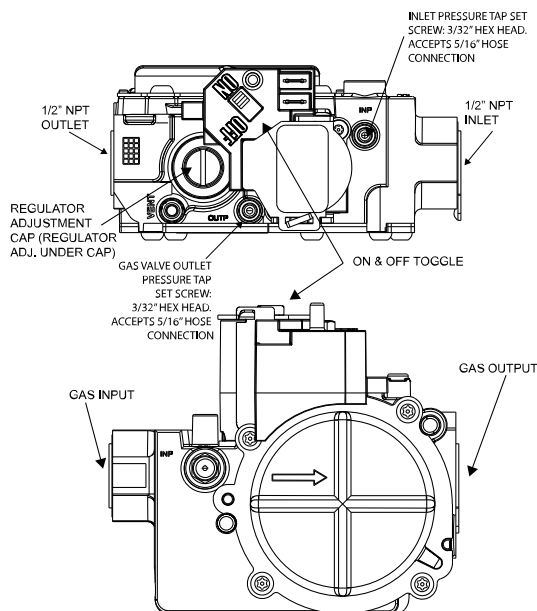

Fig. 64 – Gas Control Valve
- b. Loosen set screw on outlet tower pressure tap no more than one full turn with a 3/32 in. hex wrench, see Fig. 64.